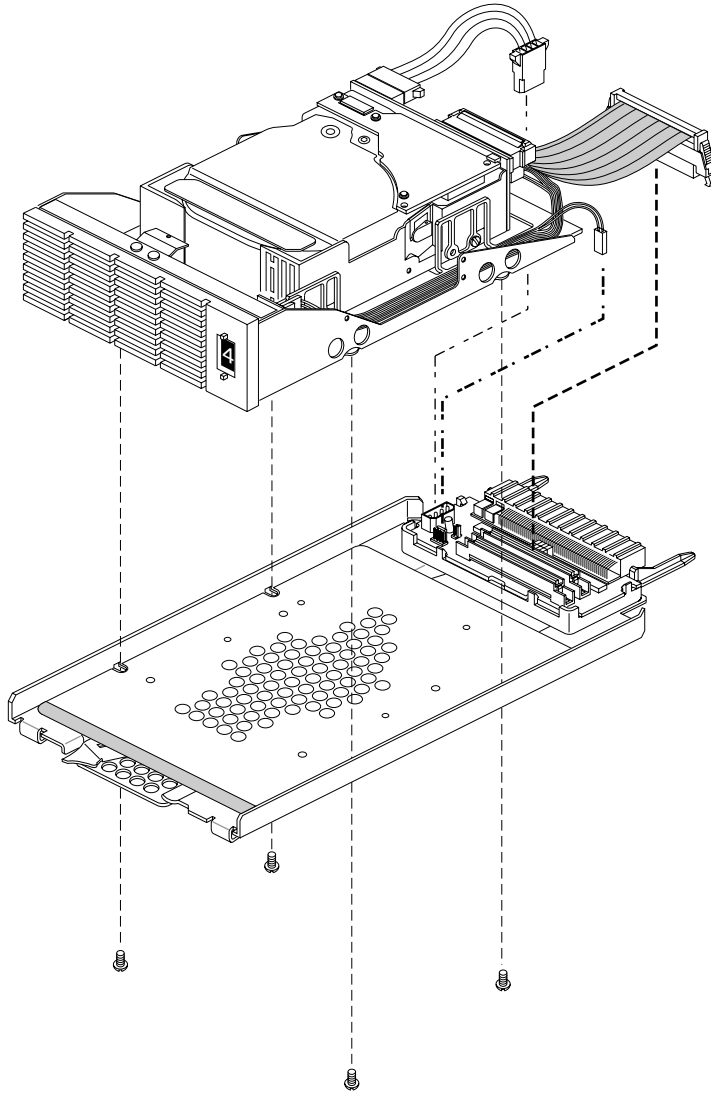

Figure A-2 Remove the Screws from the Disk and Sled Assembly
4. Undo the four Phillips-head screws (two on either side) that hold the disk to the sled assembly. See Figure A-2.